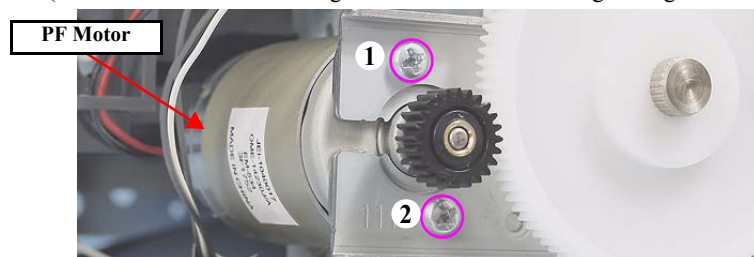

Figure 4-137. Removing the PF Motor
- Tighten the screws in the order given in Fig.4-137.